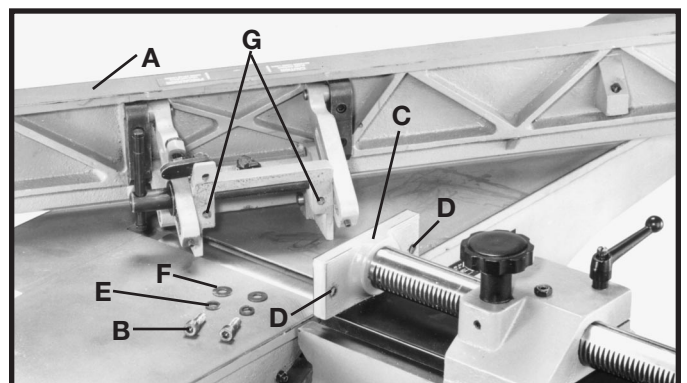

Fig. 17
1. Fasten fence (A) Fig. 17, to fence carriage assembly (C) through holes (D). Align the two holes (G) in the fence with the two holes (D) in the carriage assembly (C). Place a M8.1 lockwasher (E), then an M8 flat washer (F), on an M8x1.25x25mm hex socket head screw (B). Insert the screw through hole (D) in the carriage assembly and thread the screw into the tapped hole (G) in the fence, and tighten securely. Repeat this process for the remaining hole in the fence and carriage assembly.